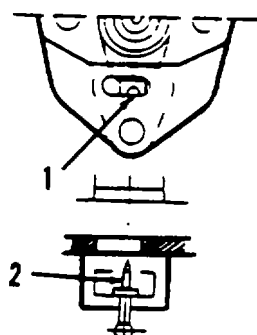

Figure 4-27. Fuel Injector Pump Alignment.
- (1) Insert bottom flat tappet (8) down into engine block, closed end first.
- (2) Adjust speed control lever (9) until governor yoke (10) is centered in engine block opening.
- (3) Refer to Figure 4-27. The access hole on fuel injection pump has an access hole pointer match mark (1). Make sure the pointer (2) of the control lever lines up with the match mark.